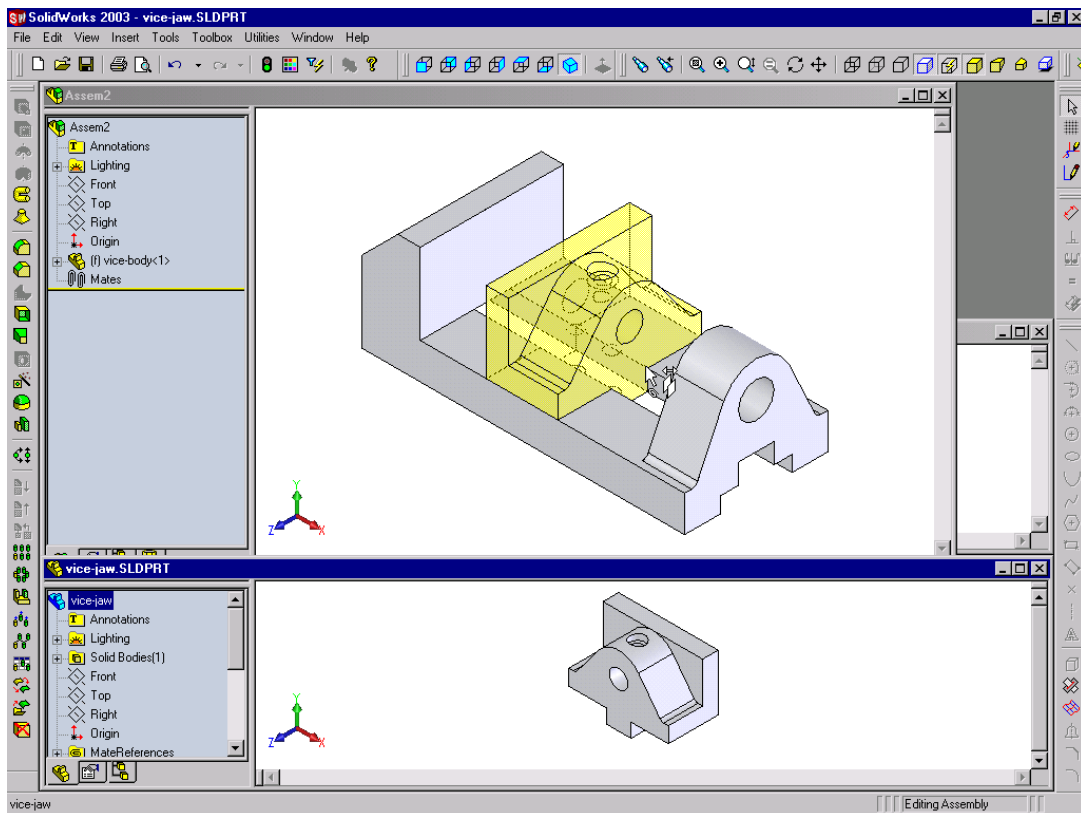
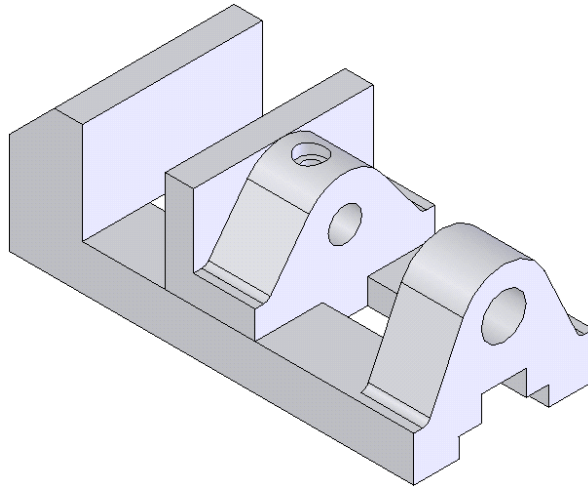

Figure 10-57 Second component being dragged
Figure 10-58 Vice jaw assembled with the Vice Body
- Create a new assembly document and open all the part documents. Place the first component, which is Vice Body, by dragging and dropping from the part document window. Now, drag and drop the Vice Jaw in the assembly document. It will automatically assemble with the Vice Jaw because the mate references are already defined in both the part documents, refer to Figures 10-57 and 10- 58.
Figure 10-57 shows the second component being dragged in the assembly document. Figure 10-58 shows the vice jaw assembled with the vice body.